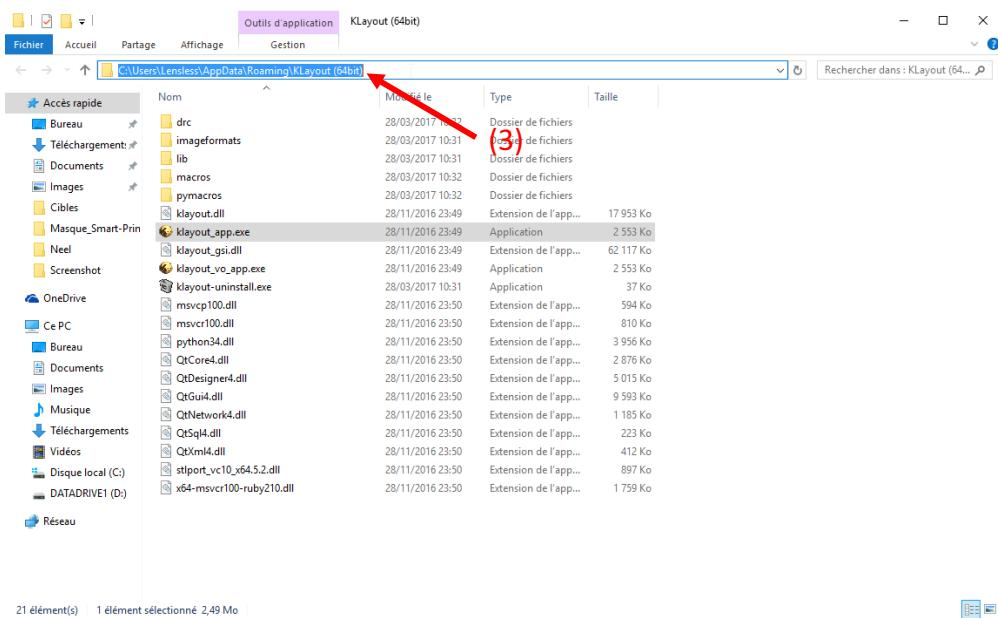

Figure 73 – Finding the file path of KLayout executable file, step (3)
- Copy the file path located in the address bar (Ctrl-C) (Figure 73(3))